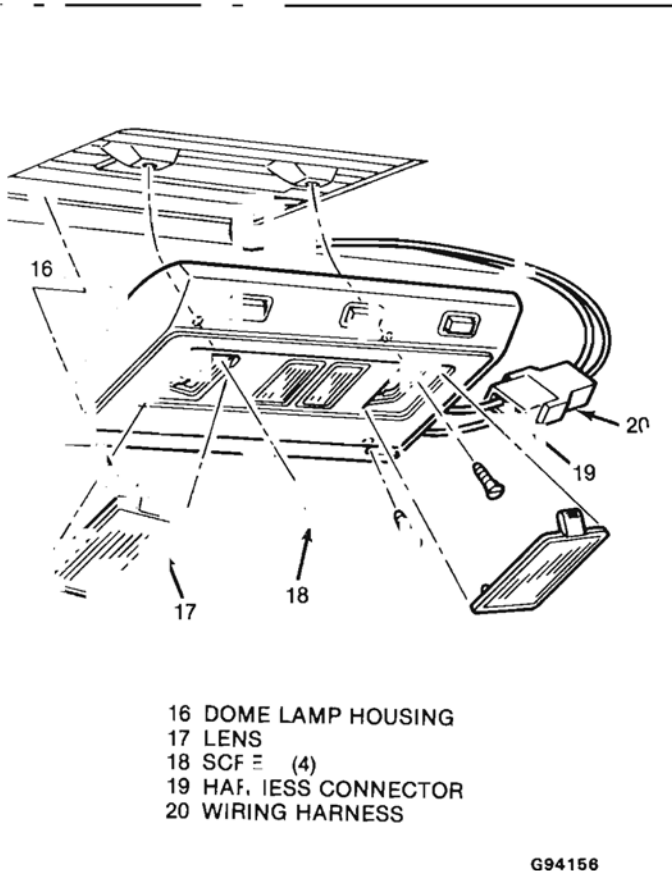

Fig. 6-Dome Lamp Assembly
**Remove or Disconnect (Figure 6)**
- Insert a flat-bladed tool between tab on lens (17) and housing (16)
3. Four housing attaching screws (18)
4. Harness connector (19) from wiring harness (20)
**Install or Connect (Figure 6)**